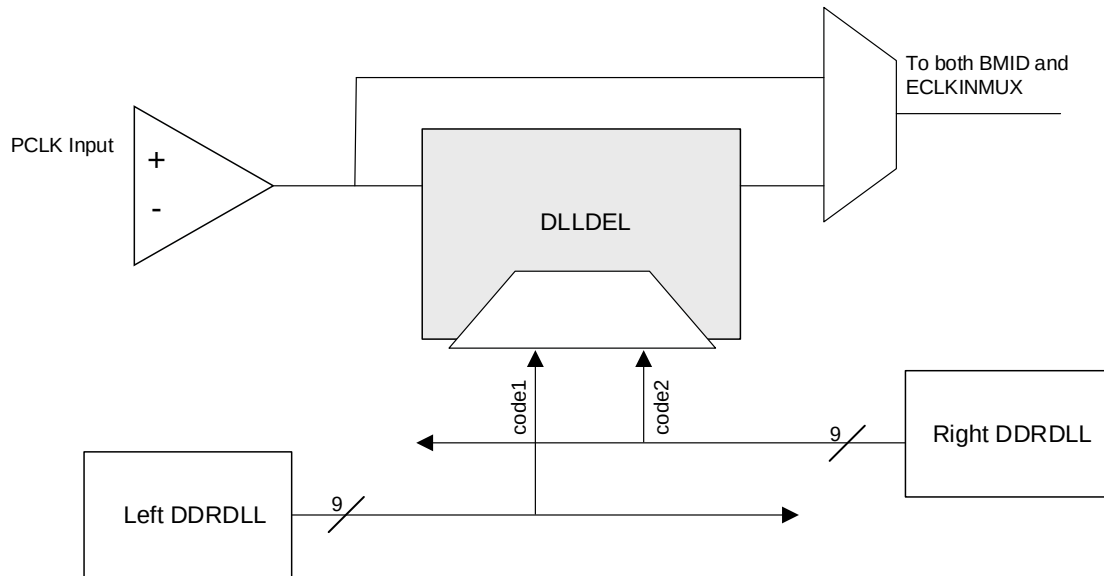

Figure 2.11. DLLDEL Functional Diagram
- The value is also sent to another Target DLL, DLLDEL, which takes a primary clock input and generates a 90-degree shifted clock output to drive the clocking structure. This is useful in an edge-aligned Generic DDR interface, where 90-degree clocking needs to be created. Not all primary clock inputs have associated DLLDEL control. Figure 2.11 shows DDRDLL connectivity to a DLLDEL block (connectivity to DQSBUF blocks is similar).